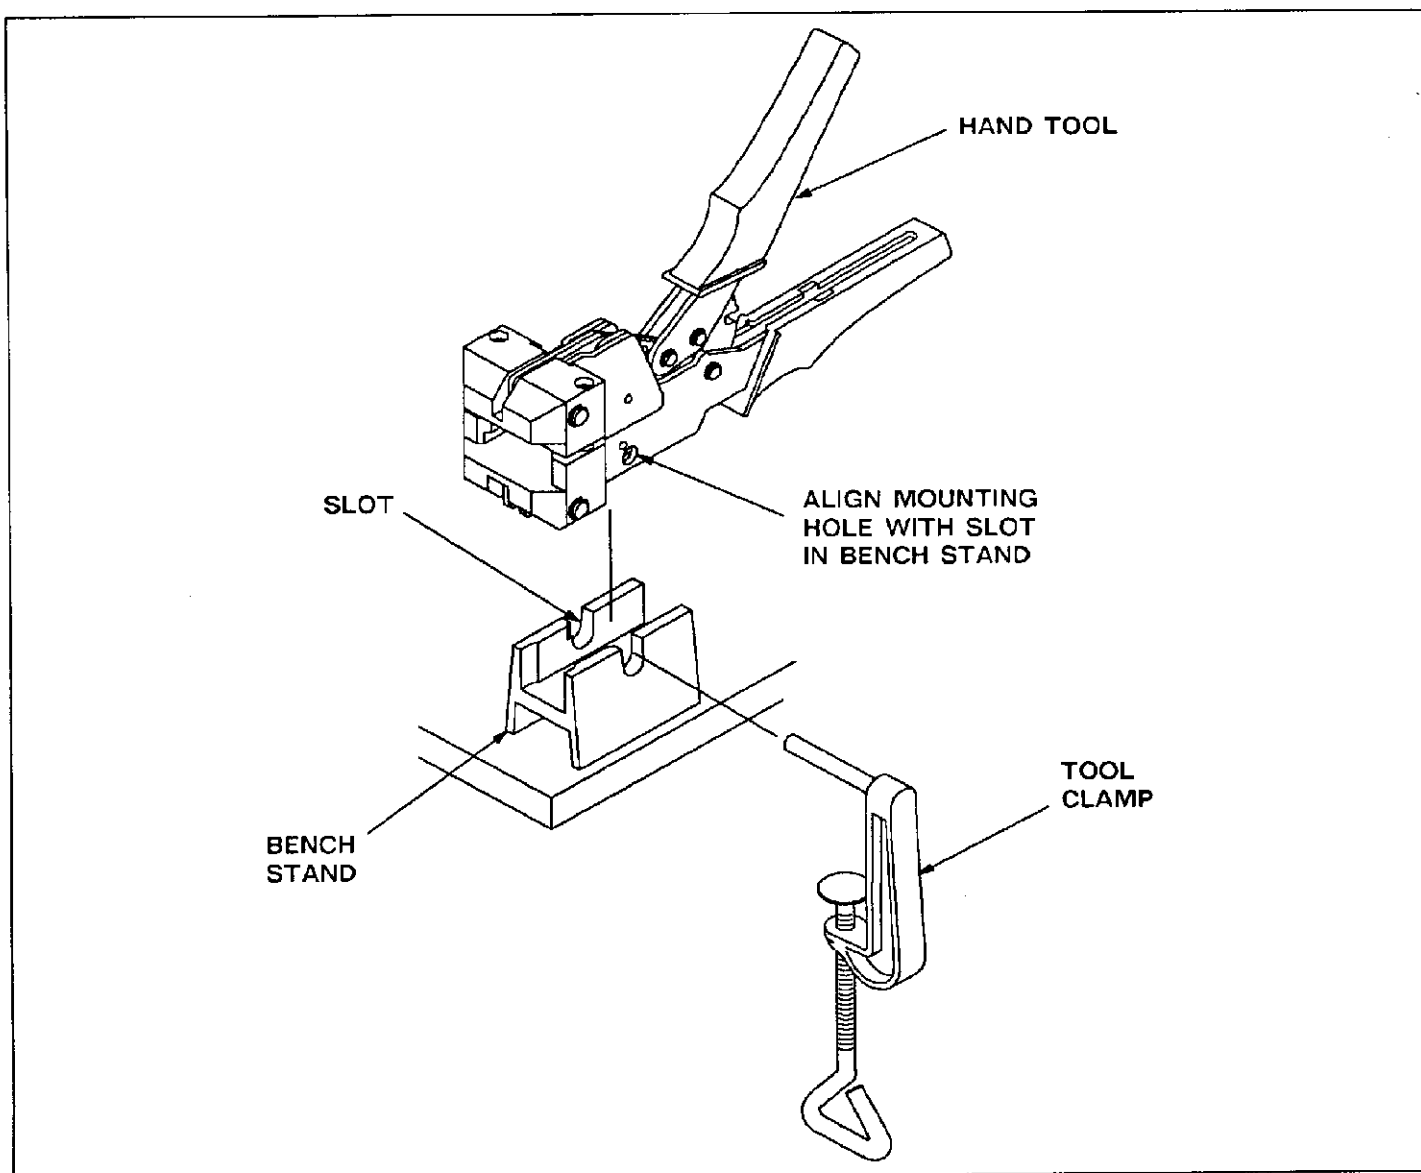
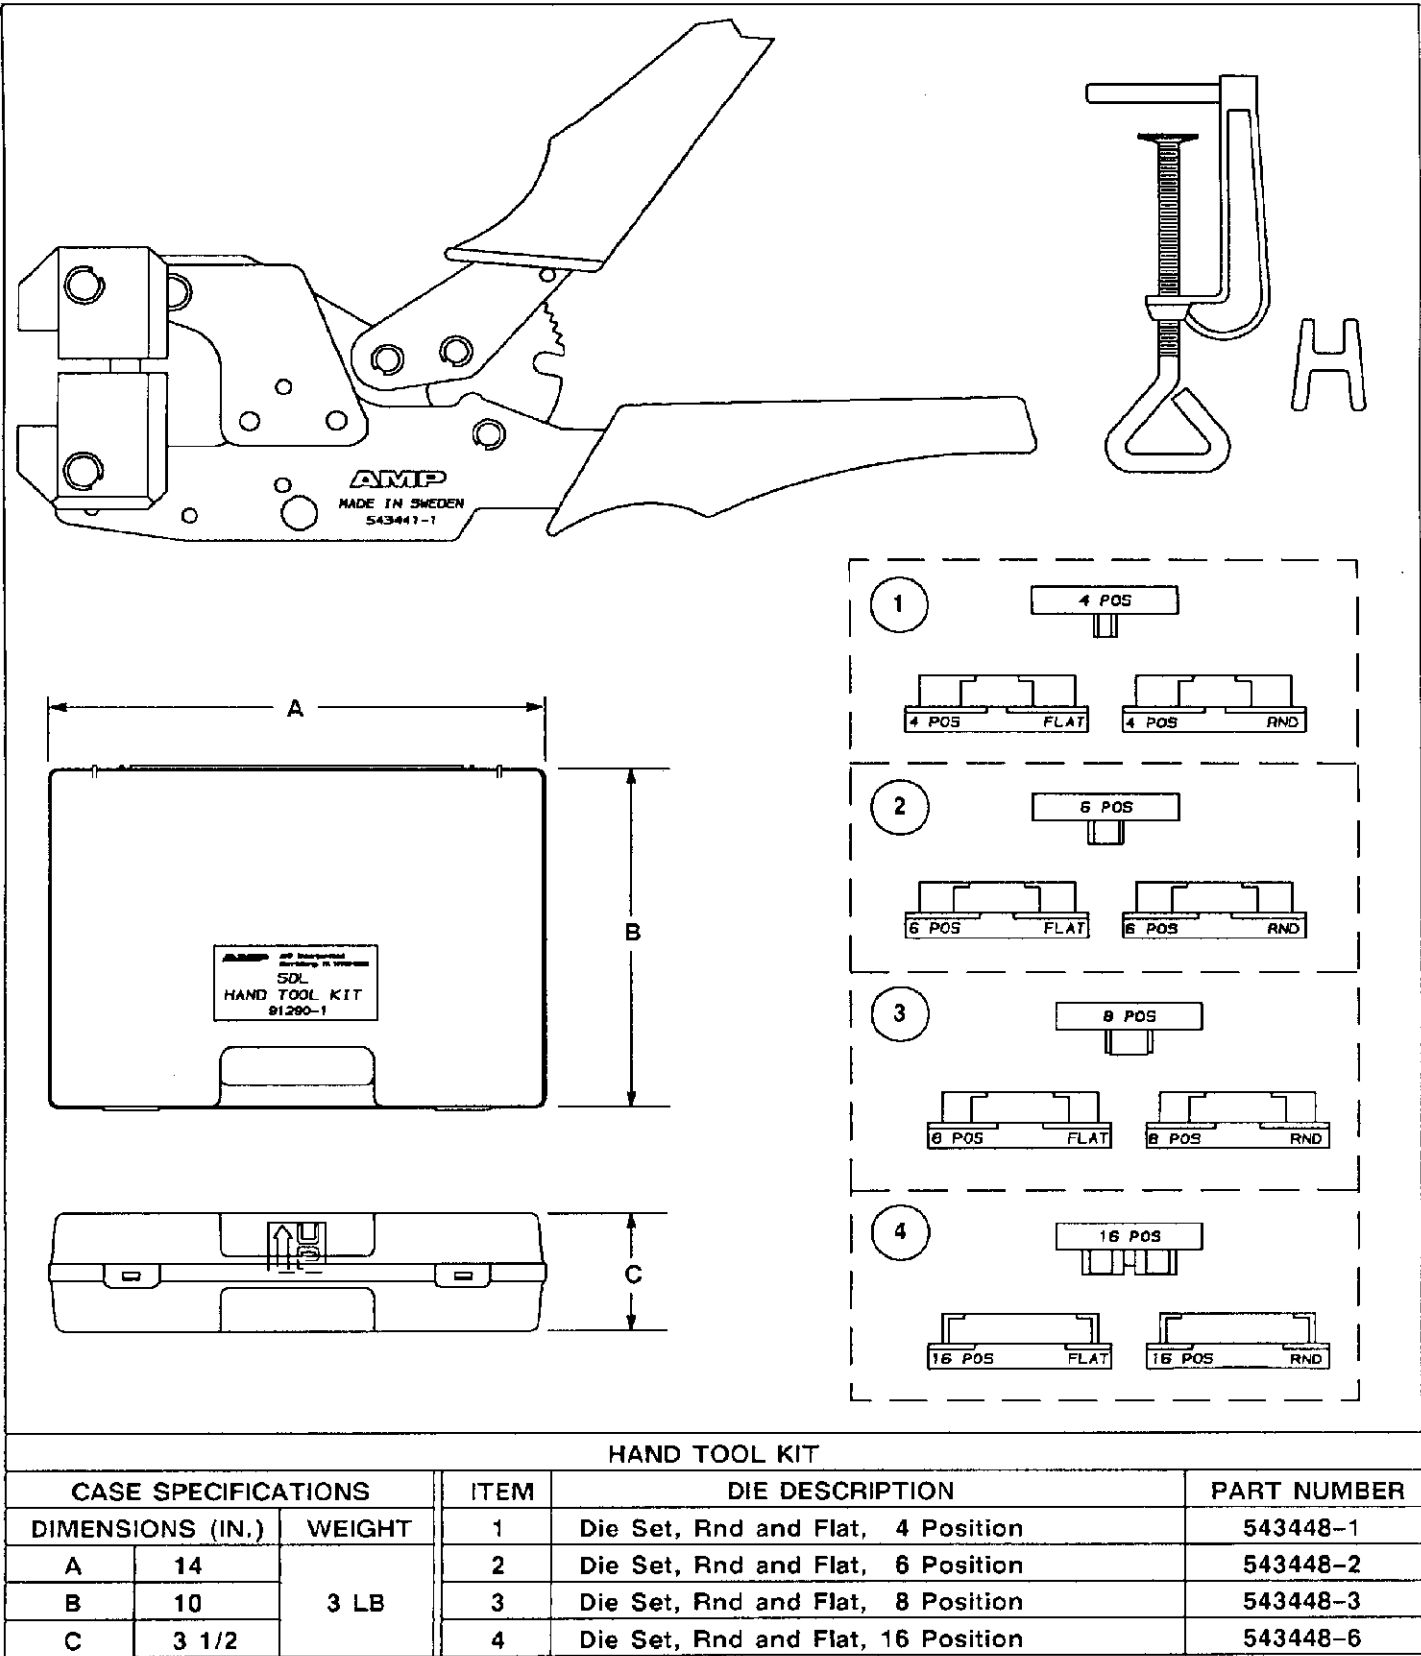

Fig. 2
Fig. 5
The hand tool kit consists of the following: a hand tool frame (p/n 543441-1), four die sets (each with an upper die, and two lower dies for flat or round cable), a bench clamp kit (see Figure 2), and a carrying case (see Figure 5).
3. BENCH CLAMP PROCEDURE (Figure 2)
Determine specific size and style of connector and cable to be terminated (refer to AMP Catalog 82101); then select the appropriate die set components in the tool case (see Figure 5) and proceed as follows:
Customer-replaceable parts are listed in Figure 5. A complete inventory should be stocked and controlled to prevent lost time when replacement of parts is necessary. When parts are needed, order by part number and description to: